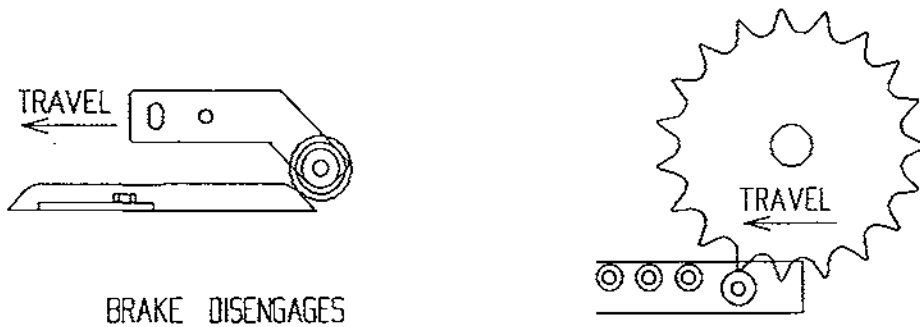

Fig 11
4. Adjust the brake trailing arm so that the brake disengages as the leading tooth of the indexing sprocket passes over the first cam follower. (See Fig 11). As a rule this is when the brake trailing arm roller is half way up the slope of the ramp.